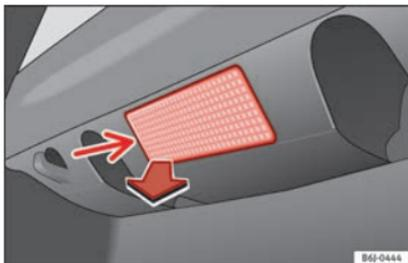

Fig. 118 Boot light.
- Extract the bulb by pressing on its inside edge -arrow- using the flat side of a screwdriver»» **Fig. 118**.